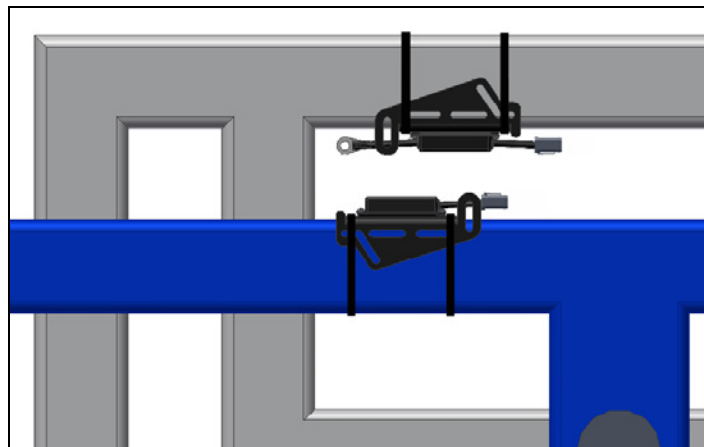

Figure 21: Inverted Chassis Roll Sensor Mounting on a Center Pivot Suspended Boom
5. The chassis roll sensor can also be mounted inverted to minimize the distance between the roll sensors (**Figure 21**).